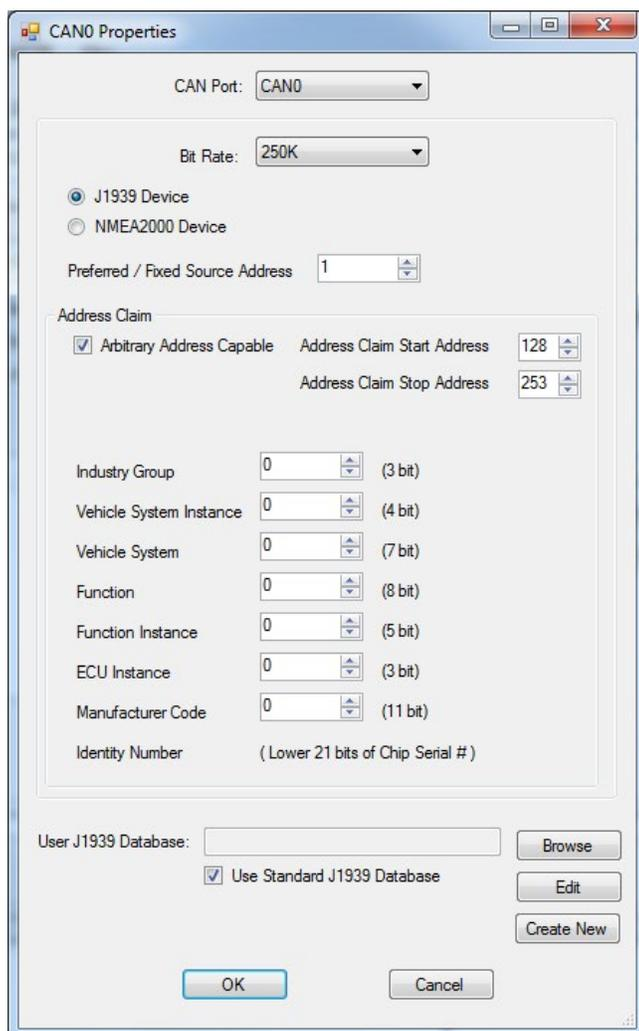

Figure 2-52 - CAN / J1939 Properties
6. Click **ADD**. From the drop-down menu, select the CAN port to use (must have been installed prior to this step). Refer to Figure 2-52. All the configuration parameters for the J1939 / NMEA 2000 communications must be configured here. Refer to the *P-Series EZ LADDER Toolkit Manual* for more in-depth information on configuring and using SAE J1939 and NMEA 2000.